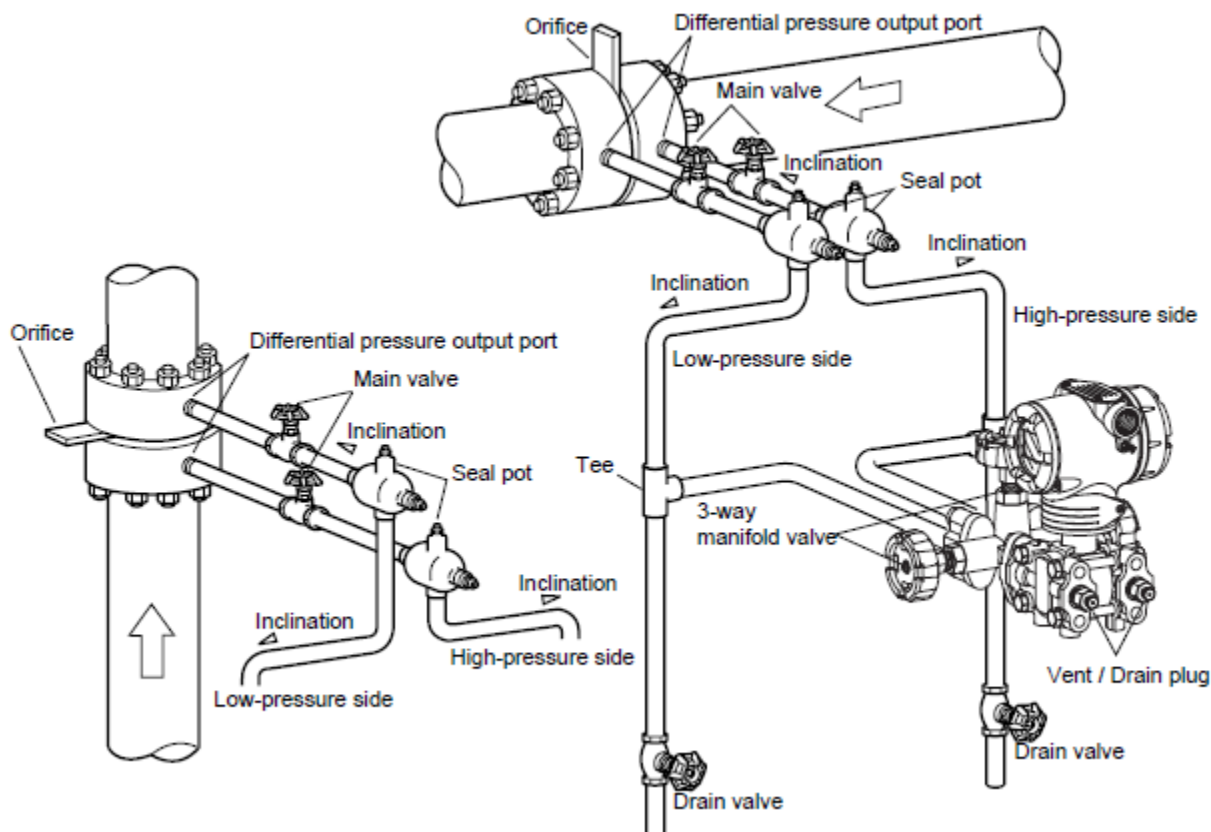

Figure 7. Steam Flow Rate Measurement
Figure 7 shows a typical example for Steam Flow Rate Measurement. This piping is recommended for a differential pressure transmitter located below the differential pressure output port of the process pipe.
- ◆ Incline the pipe as indicated in Figure 7 at the differential pressure output port.